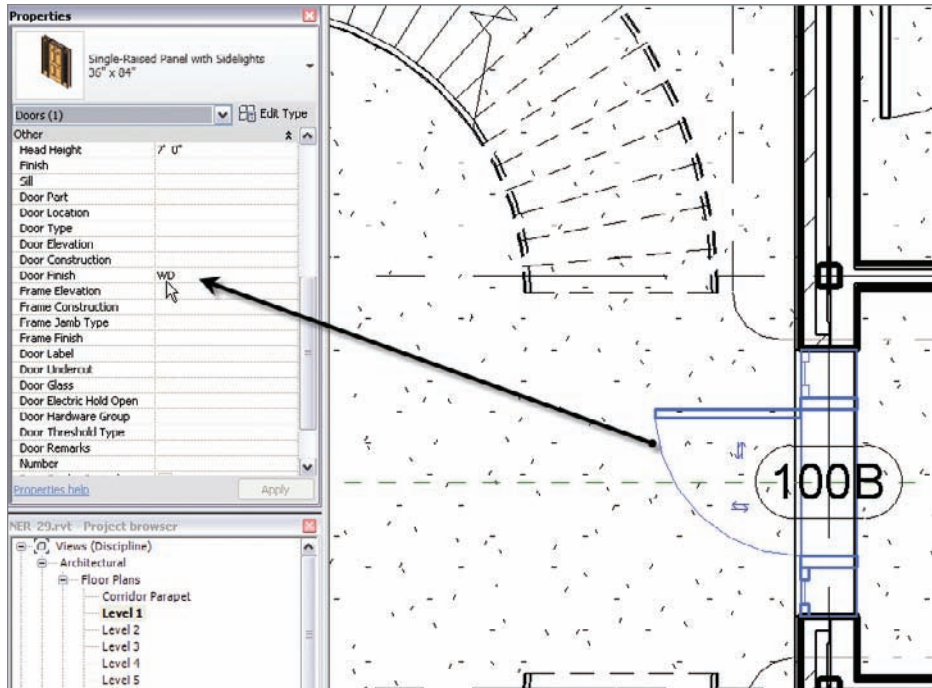

FIGURE 11.12 Changing the property of an element in the model does the same thing as changing the element in the schedule.
2. Zoom in on the door between the corridor and the east wing, as shown in Figure 11.12.
5. Click in the field and type WD, as shown in Figure 11.12.